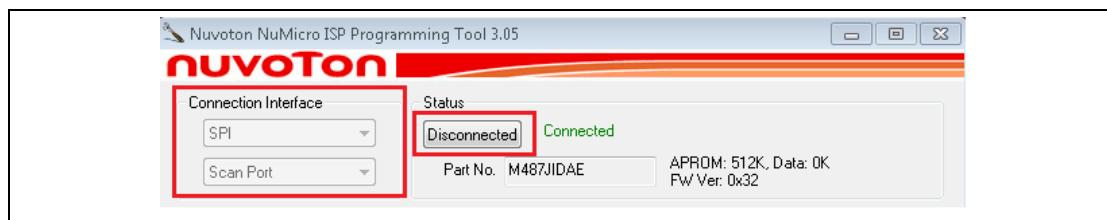
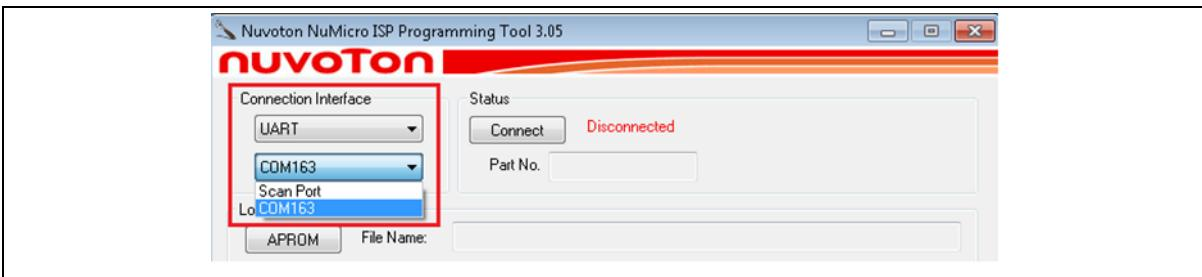

Figure 5.2-51 Connect to Target Chip with SPI Interface
Figure 5.2-52 Select VCOM Port Number with UART Interface
(10) Open ISP programming tool, click **Connect** button, and reset the target chip to run ISP code. ISP programming tool will connect to target chip. For example, SPI connection interfaces as shown in Figure 5.2-51. For UART connection interface, user needs to select VCOM port number as shown in Figure 5.2-52. All of connection interfaces that provided by ISP tool can connect to target chip by using above steps except USB interface.